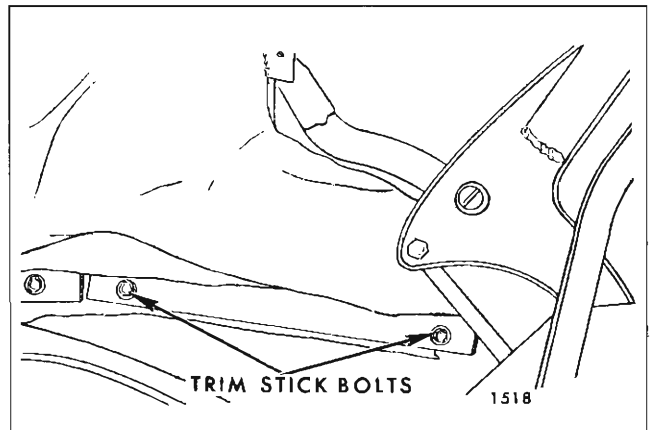

Fig. 5-I-29—Rear Quarter Trim Stick
16. Detach folding top compartment bag from rear seat back panel, thus exposing rear quarter and rear trim stick attaching bolts. Forward end of top compartment bag may be tied or wired to center roof bow to provide ready access to attaching bolts (Fig. 5I28).